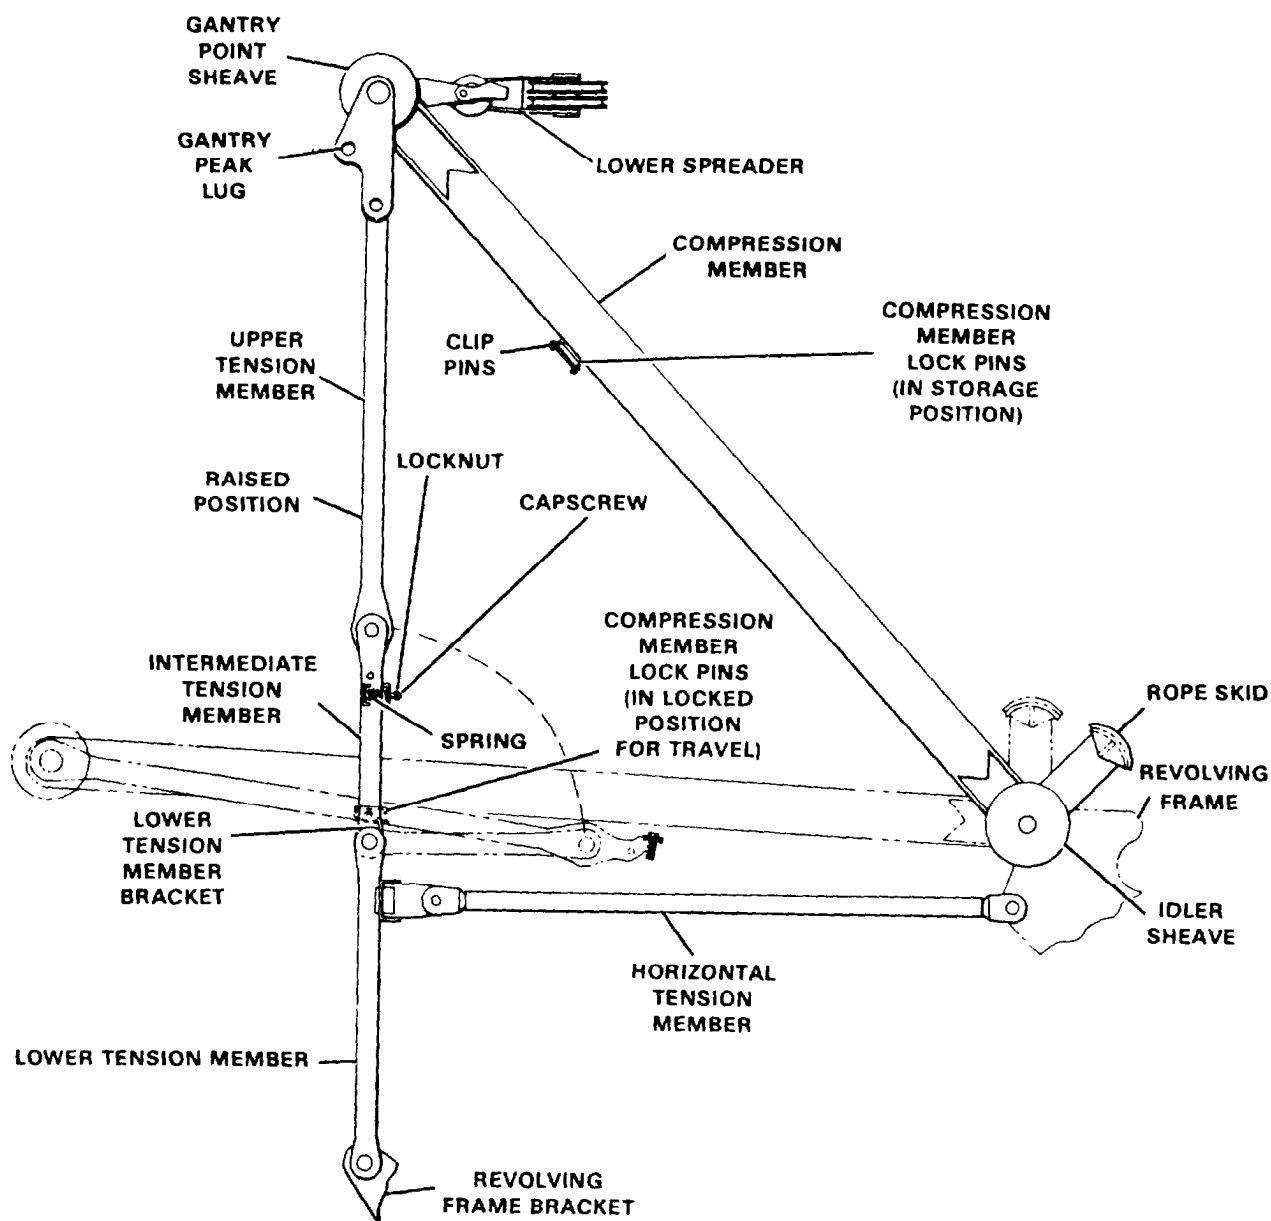

Figure 4-7. Gantry (2100J953)
RAISING THE GANTRY Raising the gantry is accomplished as follows (see Figure 4-7):
LOWERING THE GANTRY. There are two reasons for lowering the gantry: (1) to move the machine under an obstruction at the job site, and (2) to prepare the machine for travel. Lowering the gantry is accomplished as follows (see Figure 4-7):